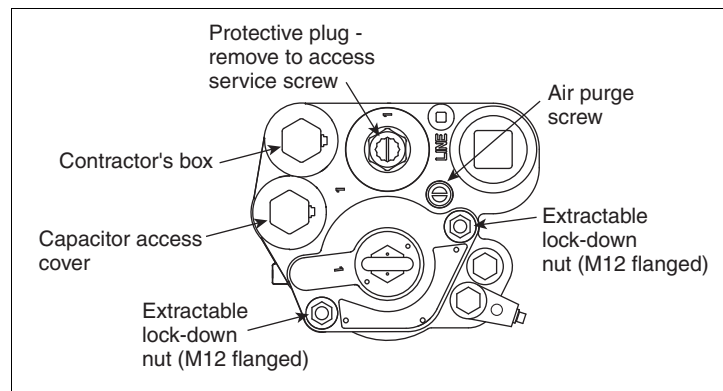

Figure 26. Extractable Lock-down Nuts
2. Remove the two extractable lock-down nuts and discard them (see Figure 26). The springs on the lock-down studs between the extractable's flange and the manifold will push the extractable up, breaking the seals.
15. Turn the air purge screw 2 - 3 turns counterclockwise (see Figure 26).
2. Remove and save the protective plug over the service screw and turn the screw clockwise (see Figure 26 on page 31). As the screw approaches its bottom position, you will hear the system depressurizing. Continue turning the screw until it can go no further. When the screw is all the way down, backoff the screw 4 turns to lift the check valve and let the fuel drain out of the manifold's hydraulic cavities. Continue to turn the screw counterclockwise until you hear the check valve drop down into position.
8. Open the air purge screw 2 - 3 turns counterclockwise (see Figure 26).